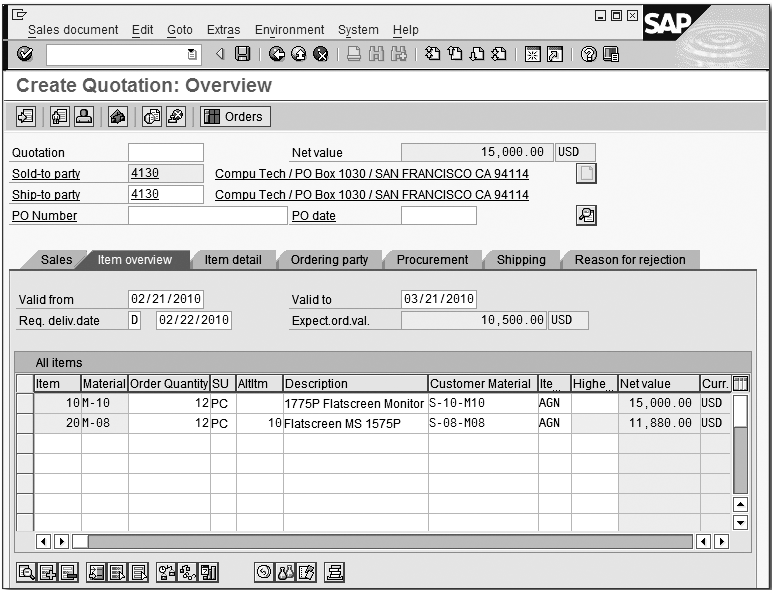

Figure 3.8 Create Quotation: Overview Screen
3. On the main CREATE QUOTATION: OVERVIEW screen (Figure 3.8), enter the quotation validity dates (start and end date), and validate the following data: